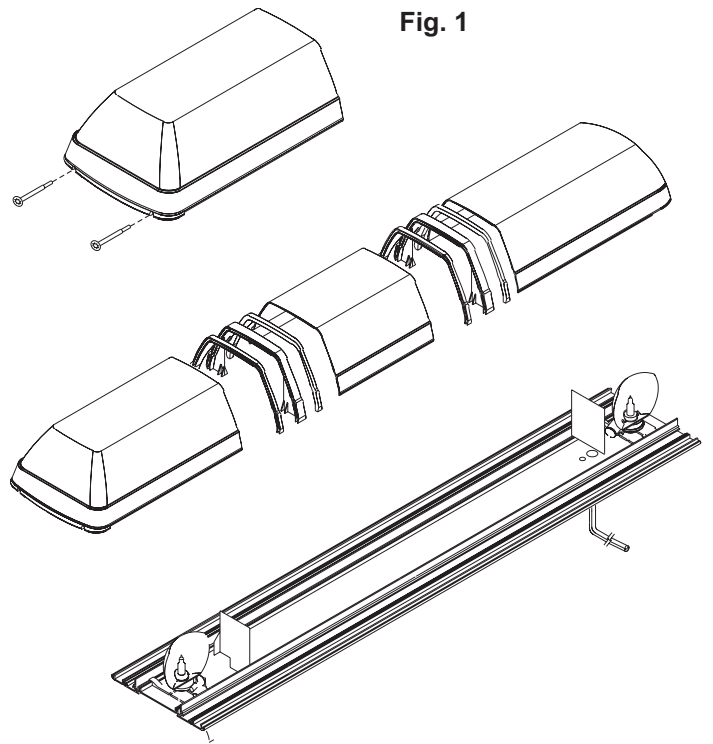

Fig. 1
1. Remove the two Torx head screws that hold the end cap onto the base (Fig. 1) and remove the end cap by sliding it out the side of the bar.
2. Slide all the lenses and dividers out of the end of the bar so you can get to the base. (Fig. 1) You may want to place the lenses and dividers aside, in the order you removed them, for easier reassembly.